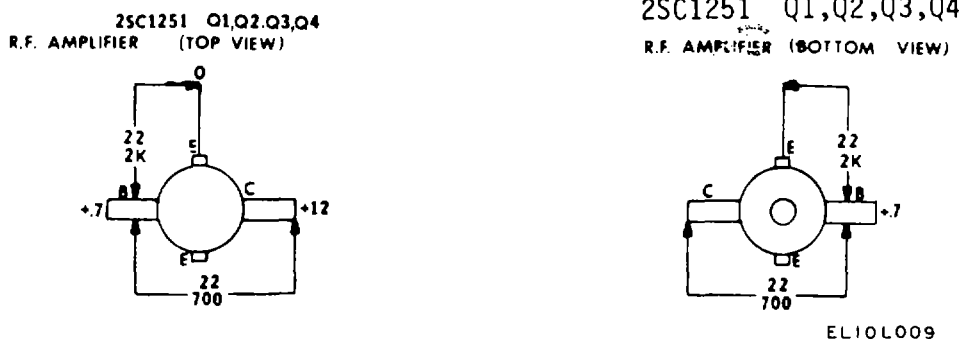
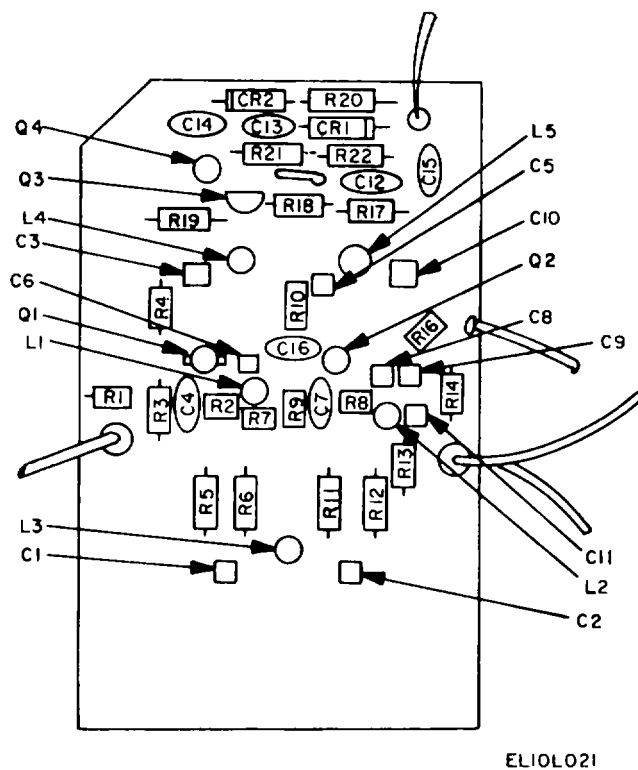

Figure 7-6. Rf amplifier board A9A1, circuit measurements.
Figure 7-8. Rf preamplifier board A9A2, parts location
a. Rf amplifier assembly A9 amplifies the signal from A8 to the required level and provides amplitude and pulse modulation. For troubleshooting assembly A9 and subassemblies A9A1 and A9A2, refer to figure FO-2, sheet 3 for the schematic diagram, figures 7-6 and 7-7 for transistor and integrated circuit voltage and resistance data, figures 7-8 and FO-8 for parts location and figure FO-7 for disassembly information.
b. Signal tracing techniques, using an oscilloscope and a frequency counter, may be used to isolate a fault to a defective stage. Voltage measurements based on figures 7-6 and 7-7 and table 7-7 should then be made to further isolate the fault to a defective part. Voltage measurements should be made with the equipment operating. Resistance measurements can then be made to confirm the defect. Use the multimeter on the RX1 scale with the equipment turned off.